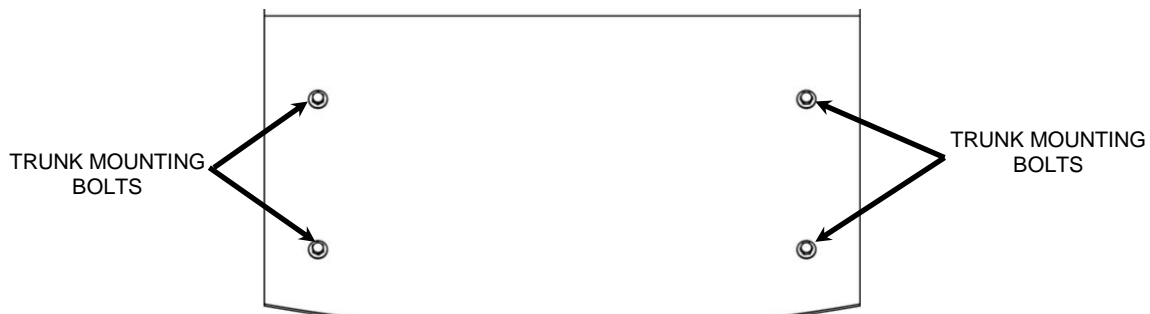

FIGURE 1
1. Open the trunk lid and remove any loose items from the trunk. Also remove the trunk liner to expose the 4 hex bolts on the floor of the trunk that attach the trunk to the frame. See **FIGURE 1**.